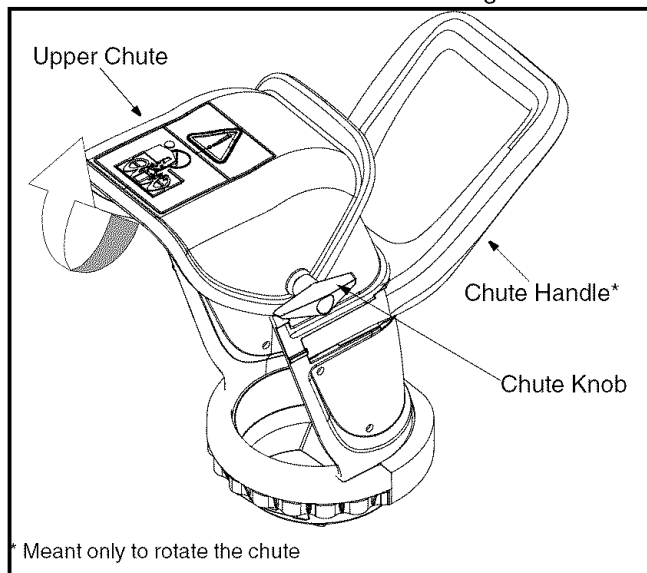

Figure 1
- Loosen the chute knob on the upper chute and pivot the upper chute upwards as far as it will go. Follow the direction of the arrow in Figure 1.
- Tighten the chute knob on the upper chute making sure the flat washer and the carriage bolt are correctly positioned. Refer to Figure 1.